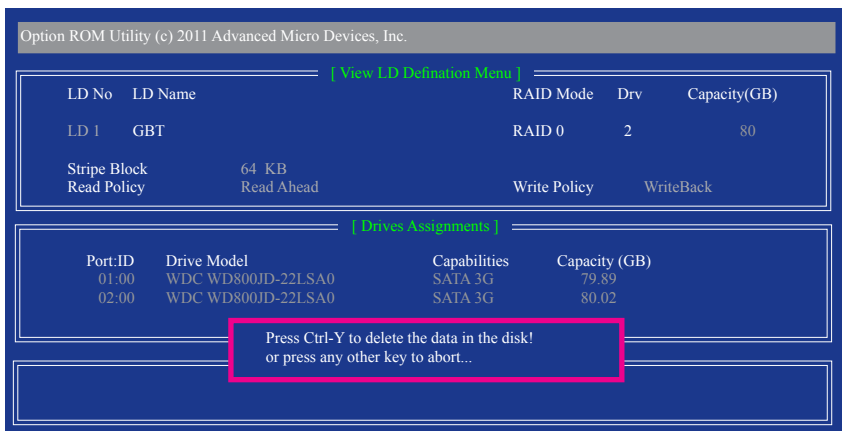

Figure 10
2. The **View LD Definition Menu** will appear (as shown in Figure 10) showing which drives are assigned to this array. Press <Ctrl>+<Y> if you are sure to delete the array or other keys to abort.